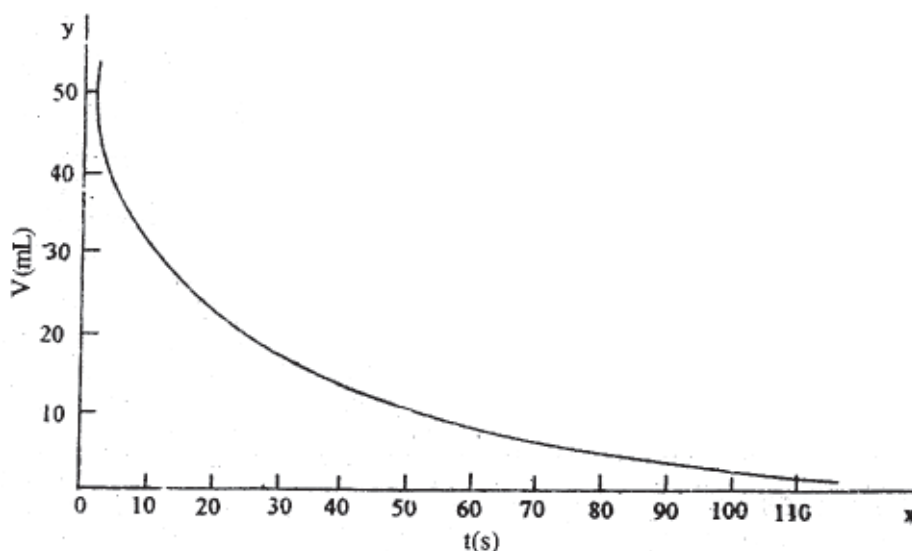

Fig. 9.3 : Graph between volume of water in the burette and observed time
- v) Plot graph between volume of water in burette, V (along y-axis), versus observed time, t , in the stop clock (along x-axis) (Fig. 9.3).